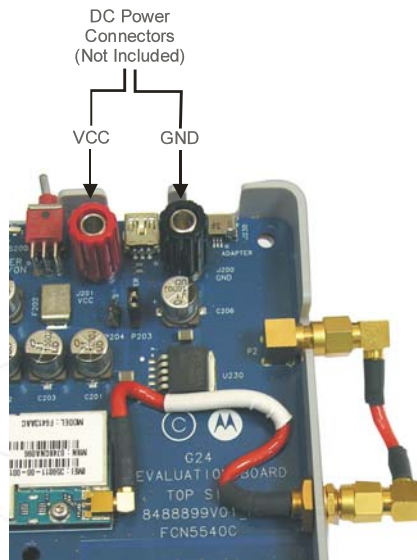

Figure 2-11: DC Input Connectors
2. Attach the DC input connectors to the Developer Board (Figure 2-11).